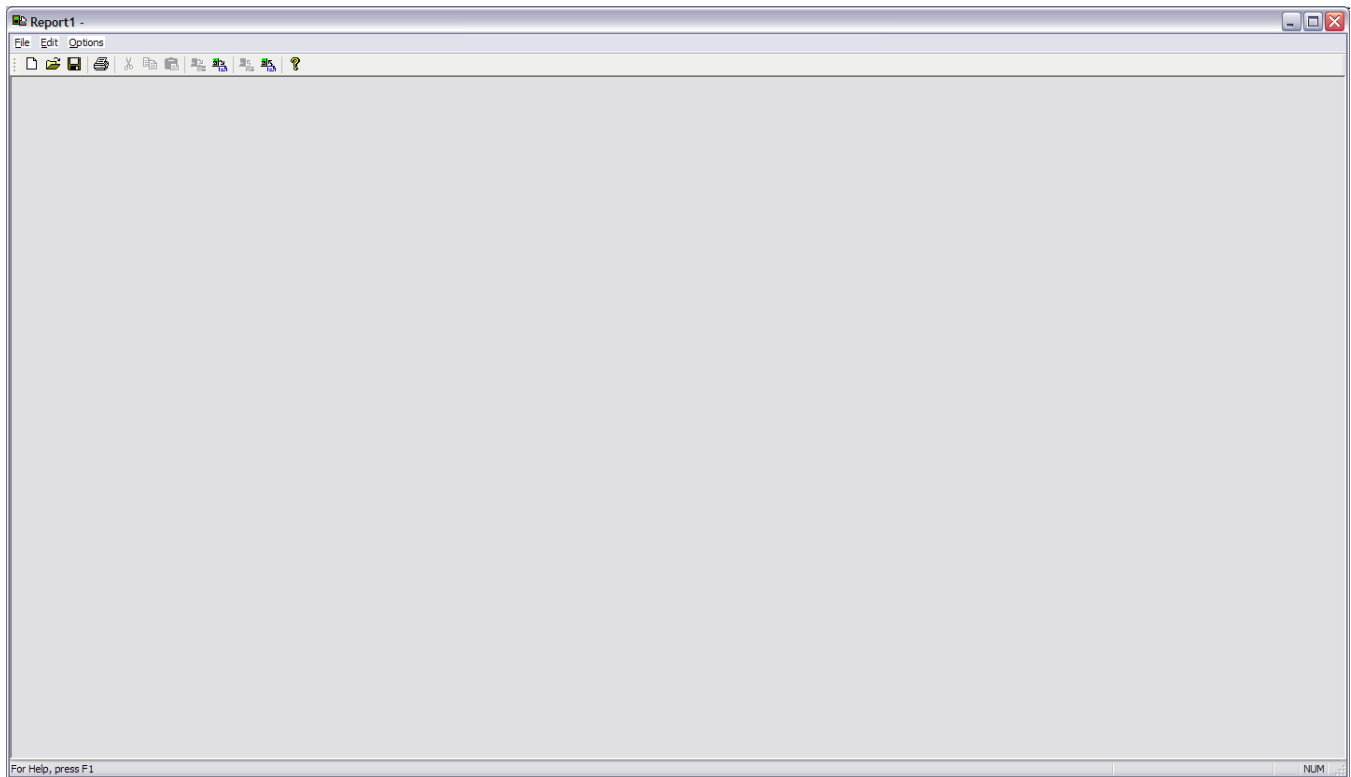

Figure 17 Report Configuration
1. Access Report Editor by selecting *File/New/Report Configuration* from the BlendMate menu bar. A display similar to that shown in Figure 17 below will appear.